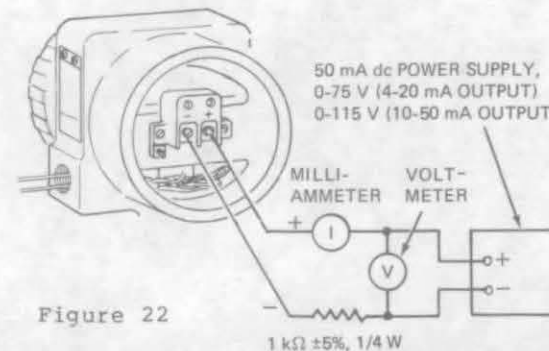

Figure 22
1. Disconnect blue and red leads at module. Connect test equipment as shown in Figure 22.